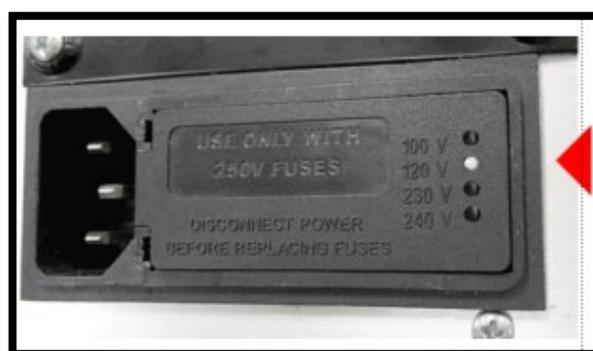

Figure 27. Note Position of Voltage Indicator Pin
- 2) Verify that the white indicator pin shows the desired voltage. Figure 27 shows the instrument set for 120 V.